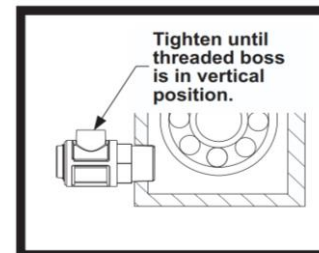

Fig. 2
- 6 Tighten Watchdog using an open end wrench until internal threaded boss is vertical (Fig. 2). When tightening plastic main body, tighten one turn from bottoming the hex against housing wall.